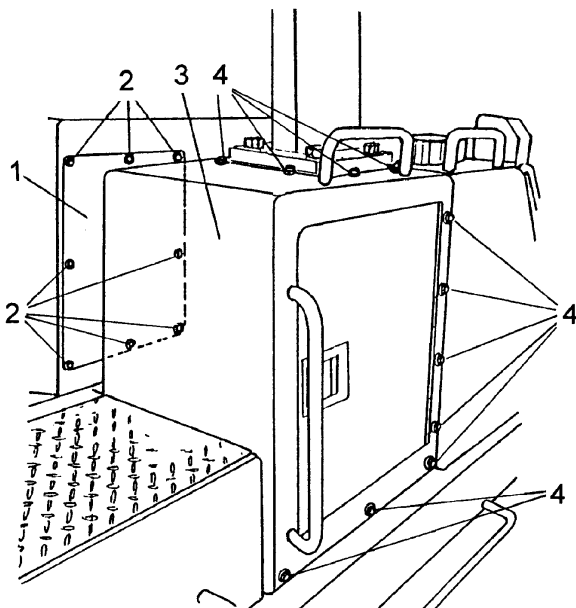

Fig. 7C.70. Disassembly Cover
2. Disconnect the electrical harness from the filter base (3, Fig. 7C.71). Unscrew bolts (4) mounting filters bracket (1) to ROPS bracket and allow the bracket (1) with filters (2) to be supported by the hoses.
3. Unscrew bolts (2, Fig. 7C.70) and remove access cover (1) in order to obtain access to mounting points of the drive train control valve.